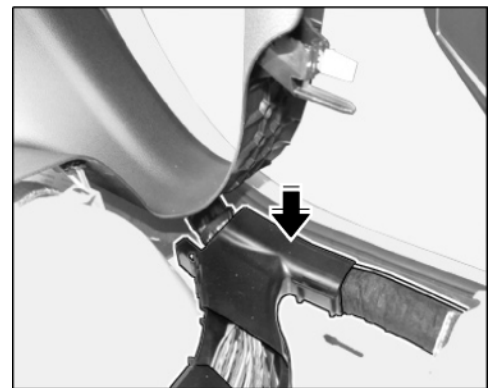

Figure 8
- 2.3.2 Open rear left cable duct (⇒ *Figure 8 -arrow-*).